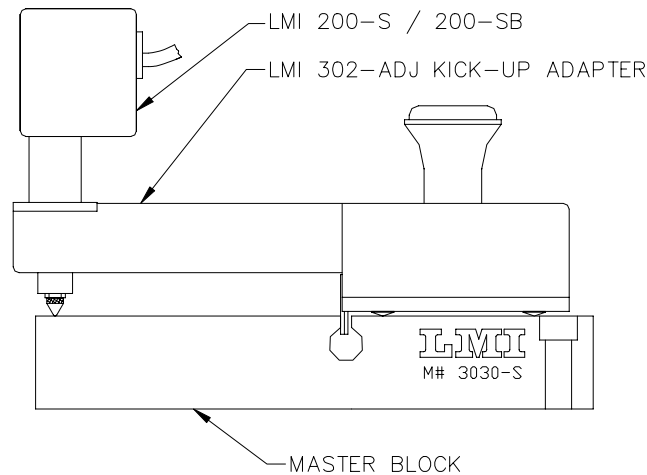

Figure 1
1. Insert the LMI 200 into the 302-ADJ kick-up adapter & tighten screw. (see figure1)
2. Put the 302-ADJ into the mastering position on the master block. (see figure1)